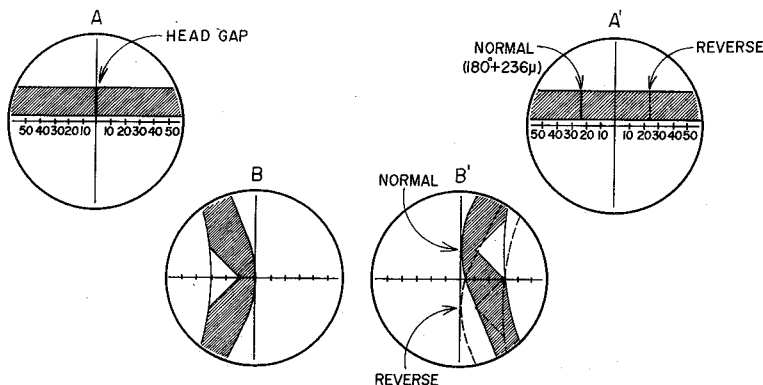

Fig. 4 Microscopic Views of Head Tip
- Adjust the protrusion of the head tips so that they are aligned with the center line of microscopes (B) and (B') as shown in Fig. 4.